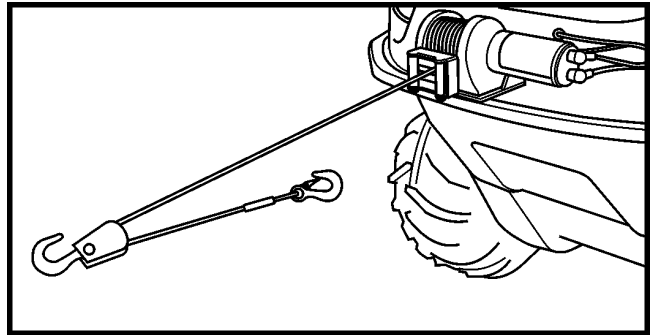

Figure 11-16 Double Line.
1. The X2 winch is rated at 3,000 pounds (single-line) capacity. **DO NOT OVERLOAD. DO NOT ATTEMPT PROLONGED PULLS AT HEAVY LOADS. DO NOT MAINTAIN POWER TO THE WINCH IF THE MOTOR STALLS.** Overloads can damage the winch and/or the wire rope and create unsafe operating conditions. For heavy loads, we recommend the use of the optional pulley block and hook assembly (Superwinch Part No. 1503) to double line the wire rope (Figure 11-16). This reduces the load on the winch and the strain on the wire rope by approximately 50%.